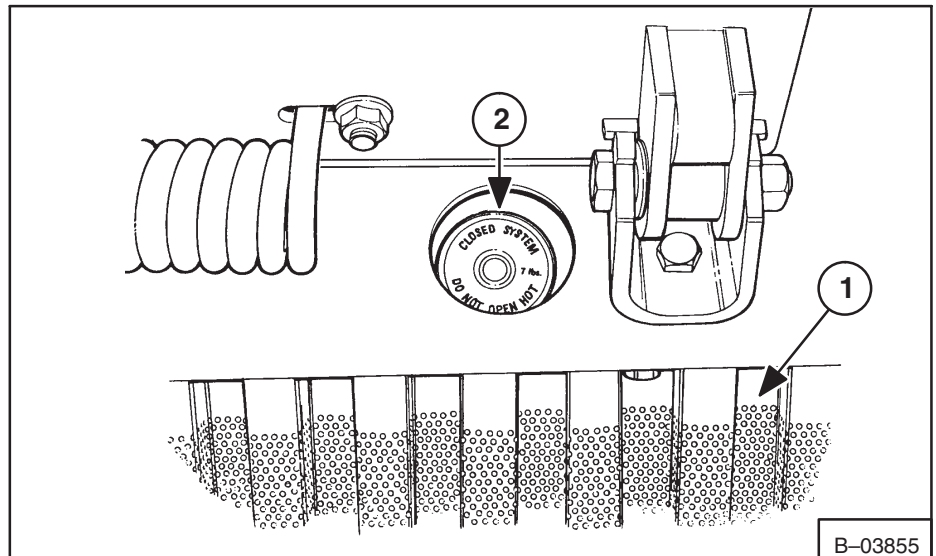

Fig. 1-28 Grill And Radiator Cap
2. Remove the grill (Fig. 1-28, Item 1).
3. Remove the radiator cap (Fig. 1-28, Item 2). The grill must be removed to do this.
5. Install the grill (Fig. 1-28, Item 1).
4. Install the grill (Fig. 1-28, Item 1).